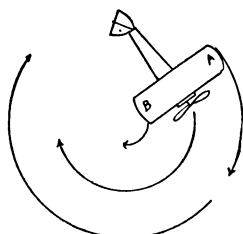

Fig. 6
If we examine the diagram Fig. 6, which represents an aeroplane turning in a circle, we will find that the outer wing (A) must travel a great deal farther than the inner wing (B), just as the outer rim of a wheel turns farther in making a revolution than does the hub. In order to accomplish this the outer tip of A must travel through the air at a much greater speed than the inner wing-tip (B). As I have already explained that the faster a plane moves the more lift it produces, it will be easily understood that the excess in speed of A must tend to lift the outer wing-tip and that
The warping-wing consists of a flexible portion of the outer end of the planes connected by cables with the operator's control in such a way that the wing or plane may be bent or twisted (Fig. 7). By bending down one wing and bending up the other the planes can be made to present a greater or less resistance and lift to the air. Thus, in turning a corner, as shown in Fig. 6, the speed of the outer wing, A, may be decreased by warping down that wing, and the speed of B accelerated and its lift increased by the same control-cables, so that the tendency to tip up is neutralized and the machine remains practically on a level keel.